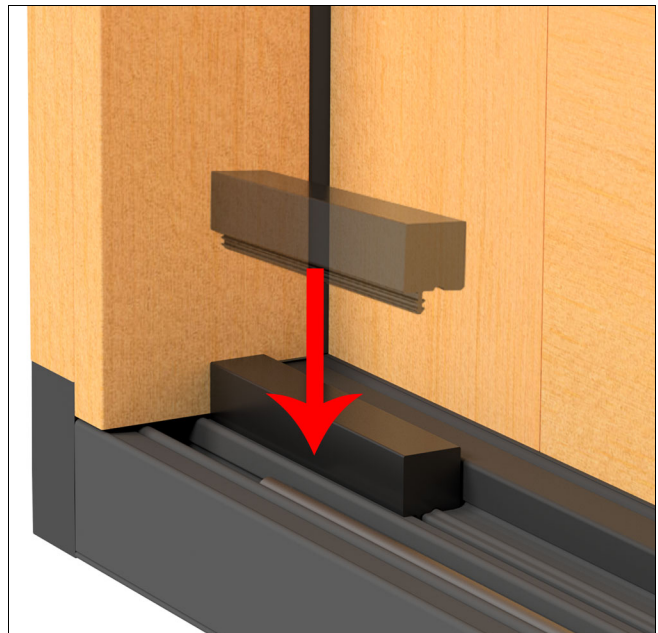
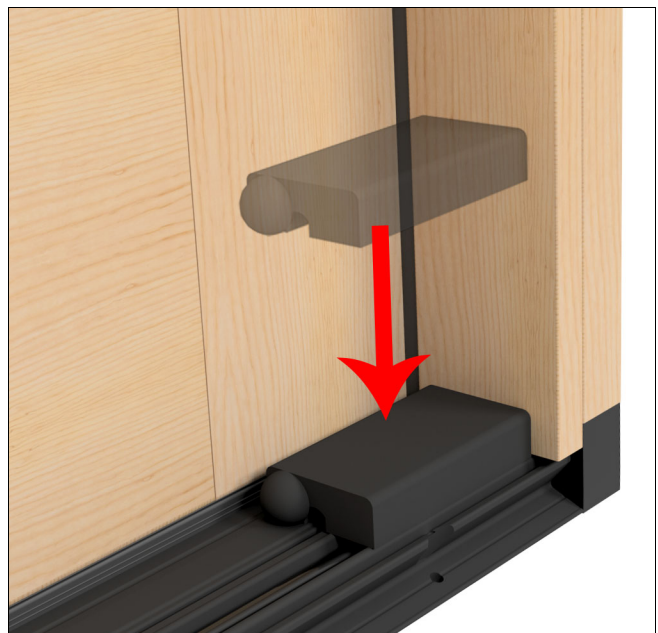

Figure 52 Performance sill
Figure 53 Accessibility sill
**5. Install the sill stop.** On performance sills, fit the barbed stop into the groove in the sill, tight against the interior jamb stop. See Figure 52. On accessibility sills, the bumper is taped in place. See Figure 53.